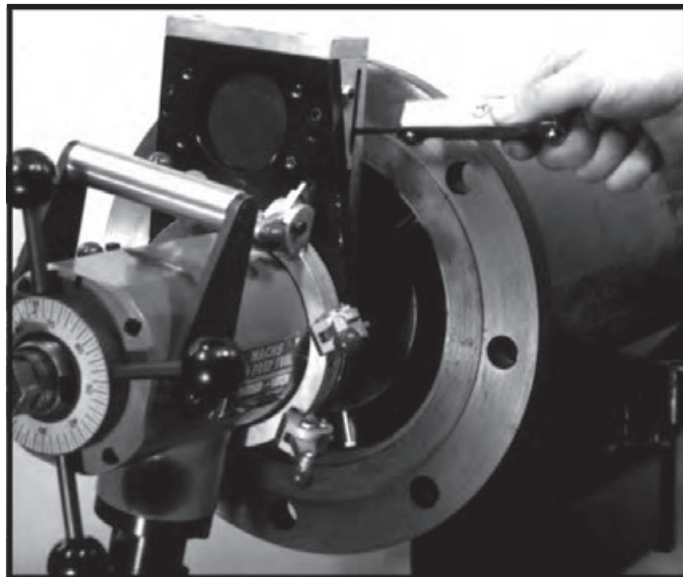

Figure 3-21.
13. Tighten the tool bit locking set screws with the supplied hex key set. (Figure 3-21)